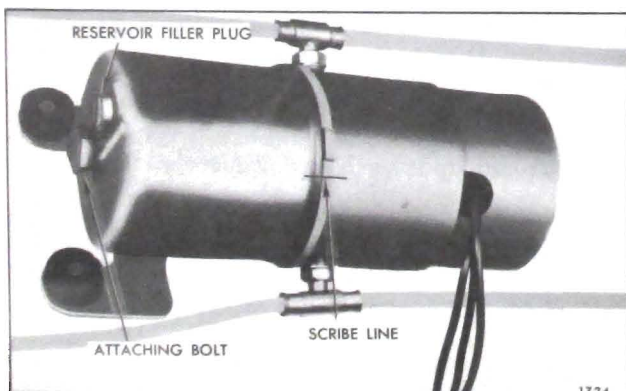

Fig. 13-62 — Hydro-Lectric Motor And Pump Assembly
2. Scribe a line across pump end plate and reservoir tube to insure a correct assembly of parts. See Fig. 13-62.